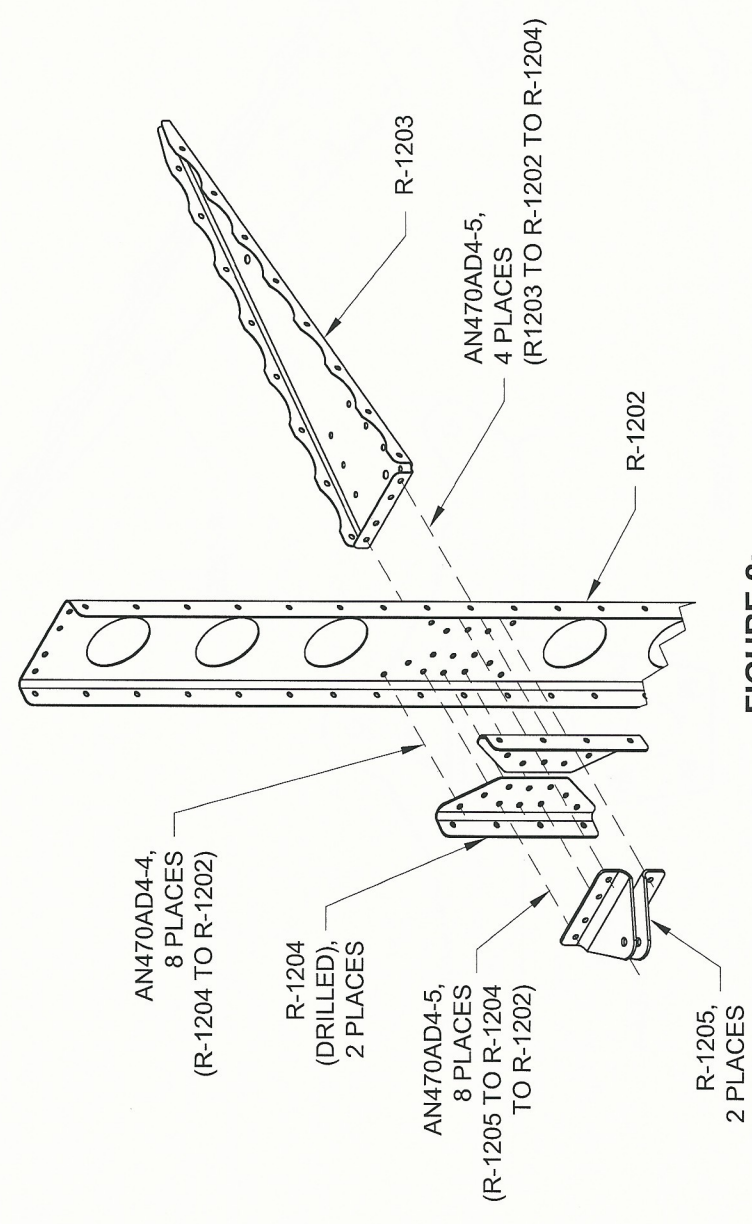

FIGURE 2:
Step 2: Remove the R-1205 Hinge Brackets and WD-1205 Rudder Horn. Rivet the R-1204 Spar Caps and the R-1203 Main Rib to the R-1202 Spar. Rivet only the four holes common to the main rib. See the rivet call-out in Figure 2.
Step 3: Rivet the R-1205 Hinge Brackets to the R-1204 Spar Caps and R-1202 Spar. Rivet the remaining holes in the spar caps to the spar. See the rivet call-outs in Figure 2.